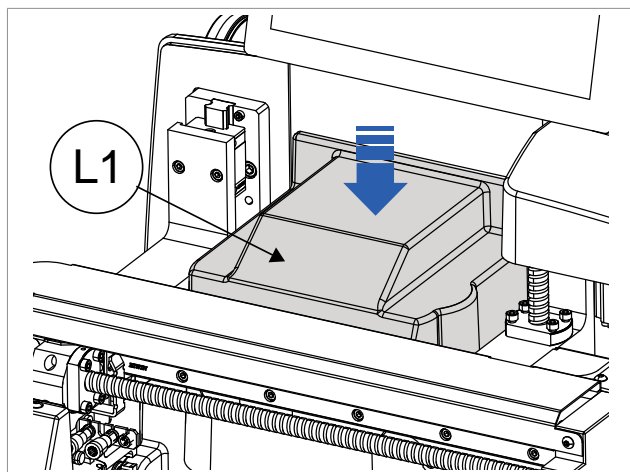

Fig. 96
- 2) Remove the rear cover (E) (chap.16.1.1).
- 3) Remove the protective screen (C) (chap.16.1.2)
- 4) Push down cover L1 (cutter unit) to facilitate removal of the screws (R2). (Fig. 96)